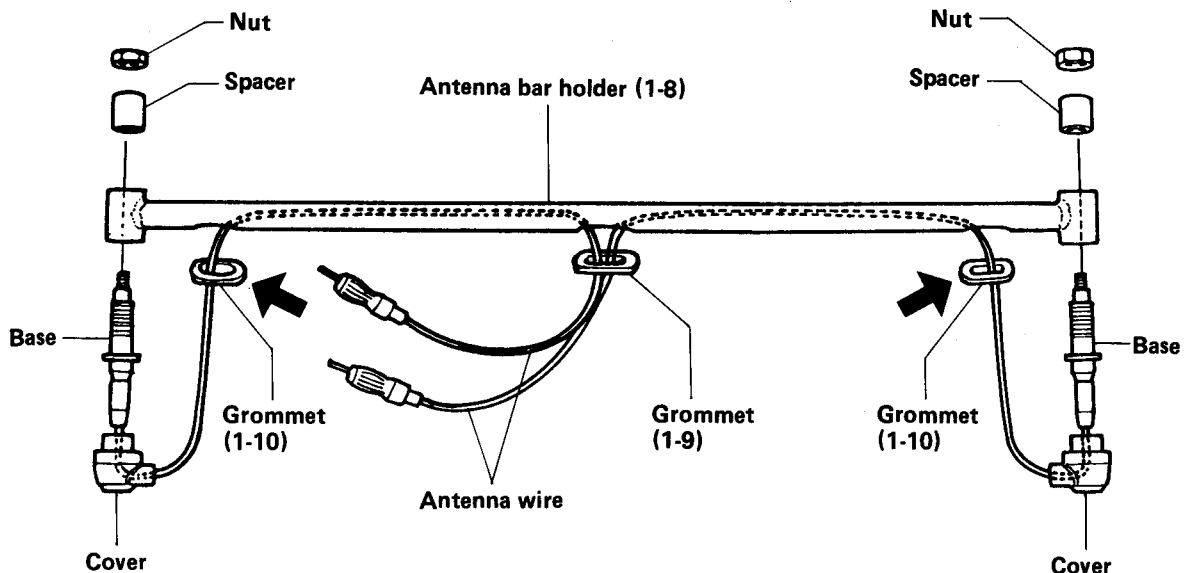

Fig. 17-1
- 2) Run the antenna wires through the antenna bar holder (1-8). Install the antenna base covers and grommets (1-10) onto antenna wires. See Fig. 17-1.